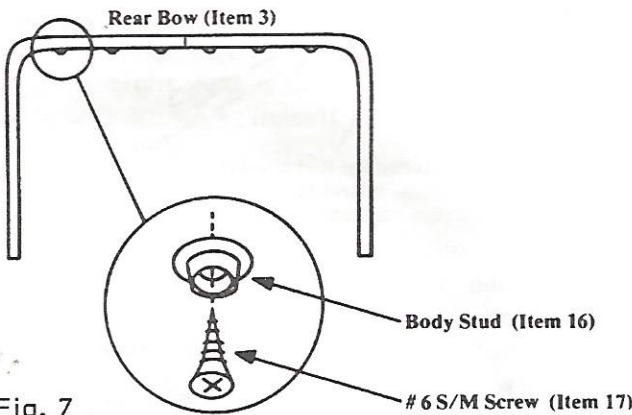

Fig. 7
1. Install a Body Stud with a #6 Sheet Metal Screw in each hole in the Rear Bow as shown in Figure 7.